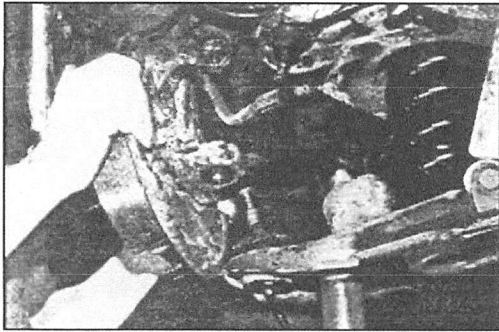
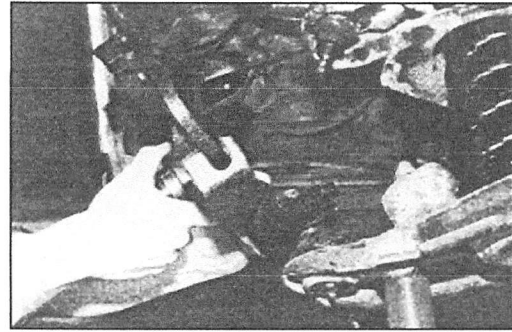

Fig. 5a
Fig. 5b
Step 5: Using a floor jack, raise the lower control arm to relieve spring tension against spindle. Remove the ball joint nuts and remove the stock spindle (Fig. 5a). Place the Early Classic Spindle onto the lower ball joint (Fig. 5b).